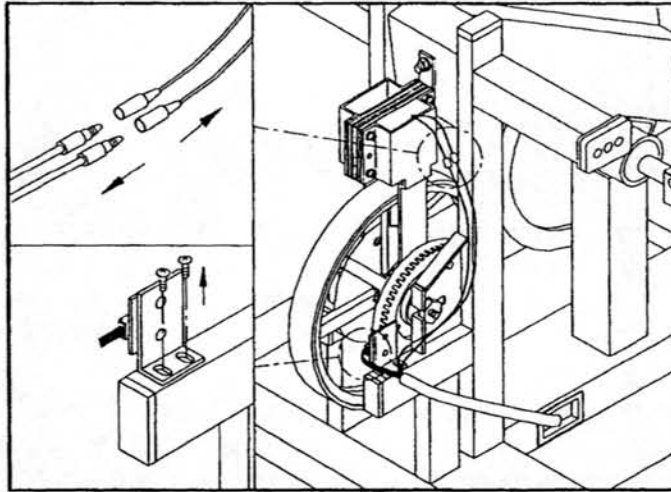

Fig.5-4
5. Find the harnesses of the ELECTROMAGNET and unplug off them. Take apart the OPTICAL SWITCH from the FRAME by removing the fixed screws (see fig 5-4).